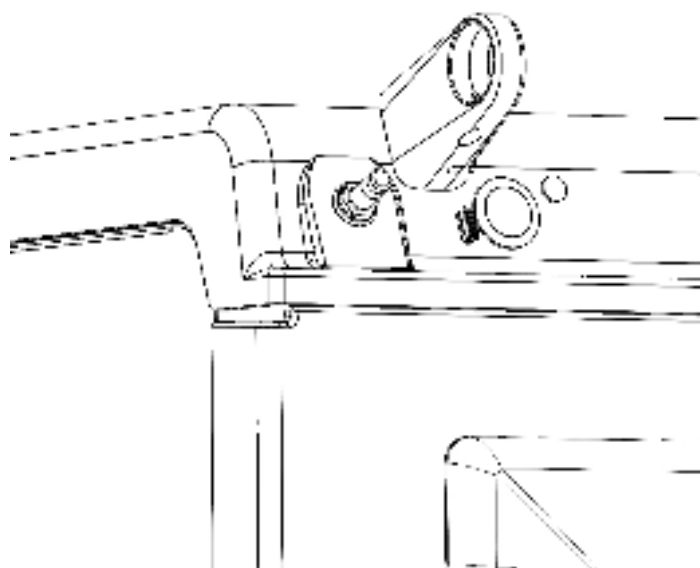

Fig. 5.10
9. Fit the handrail bracket over the fixing stud located on the top plate. Lock into position by tightening the grub screw nearest the appliance. (**Fig. 5.10**).